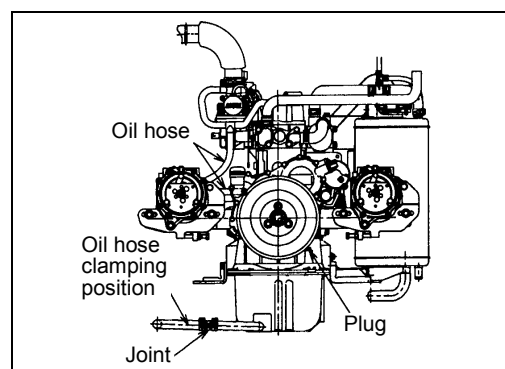

Fig. 1
(2) Disassembly procedure
- [2] Drain the engine oil. See Fig. 1.